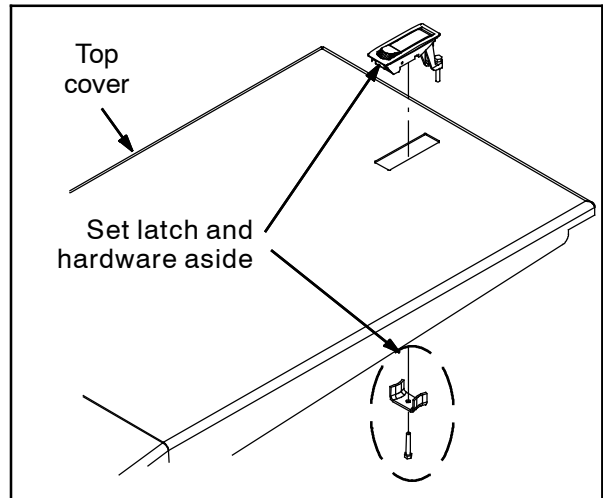

FIG. 20
27. Remove the top cover, hinges, gas spring, and mounting angle from the machine. (Fig. 20 / Fig. 21)
28. Remove the latch from the top cover. Set the latch and hardware aside. Discard the top cover, hinges, gas spring, and mounting angle. (Fig. 20)